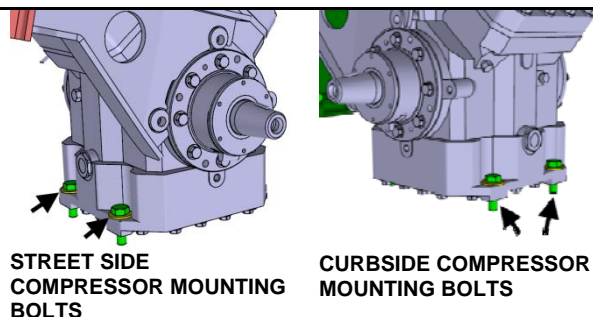

FIGURE 26
34. If bolts **C** & **E** (see two previous steps) are difficult to align in the hole, the compressor may be moved. Loosen the compressor mounting bolts (4x) at the base (see FIGURE 26